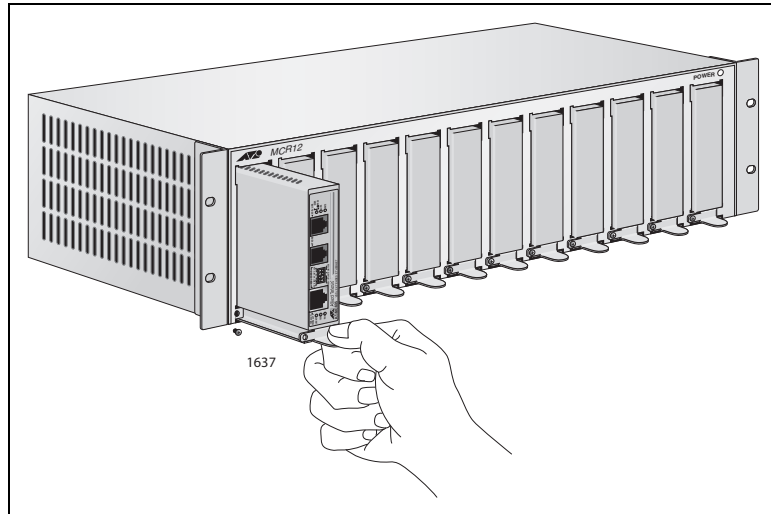

Figure 16. Rack Mount - Set in Rack
3. Position the slider, as shown in Figure 16 and push into the chassis.